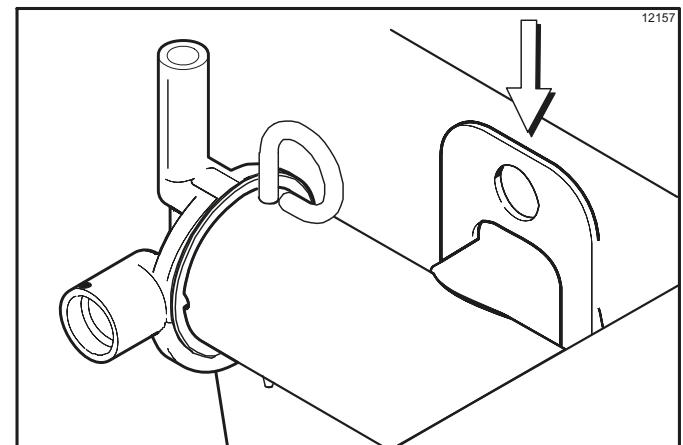

Figure 6-34
4. Install the pump assembly at the rear of the mix hopper. To position the pump on the drive hub, align the drive hole in the piston with the drive crank of the drive shaft. Secure the pump in place by slipping the pump clip over the collar of the pump, making sure the clip fits into the grooves in the collar. (See Figure 6-34.)